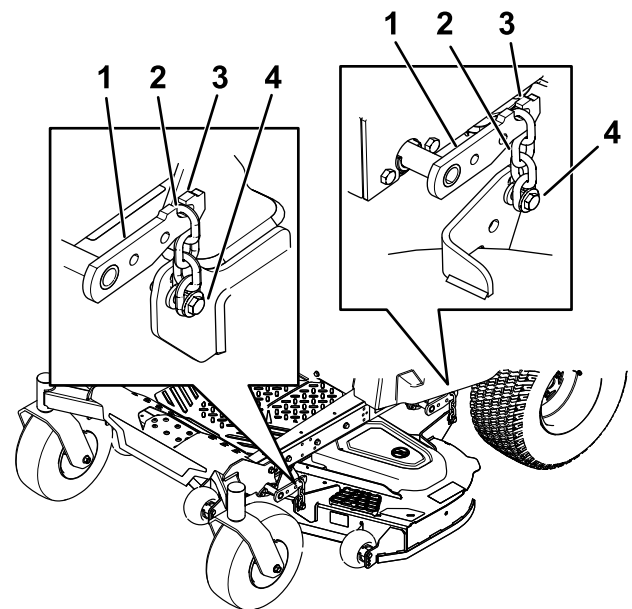

**Figure 62**
3. Place 2 blocks, each having a thickness of 6.6 cm (2-5/8 inches), under each side of the front edge of the deck but not under the anti-scalp roller brackets (Figure 62).
4. Place 2 blocks, each having a thickness of 7.3 cm (2-7/8 inches), under the rear edge of the cutting deck skirt, 1 on each side of the cutting deck (Figure 62).